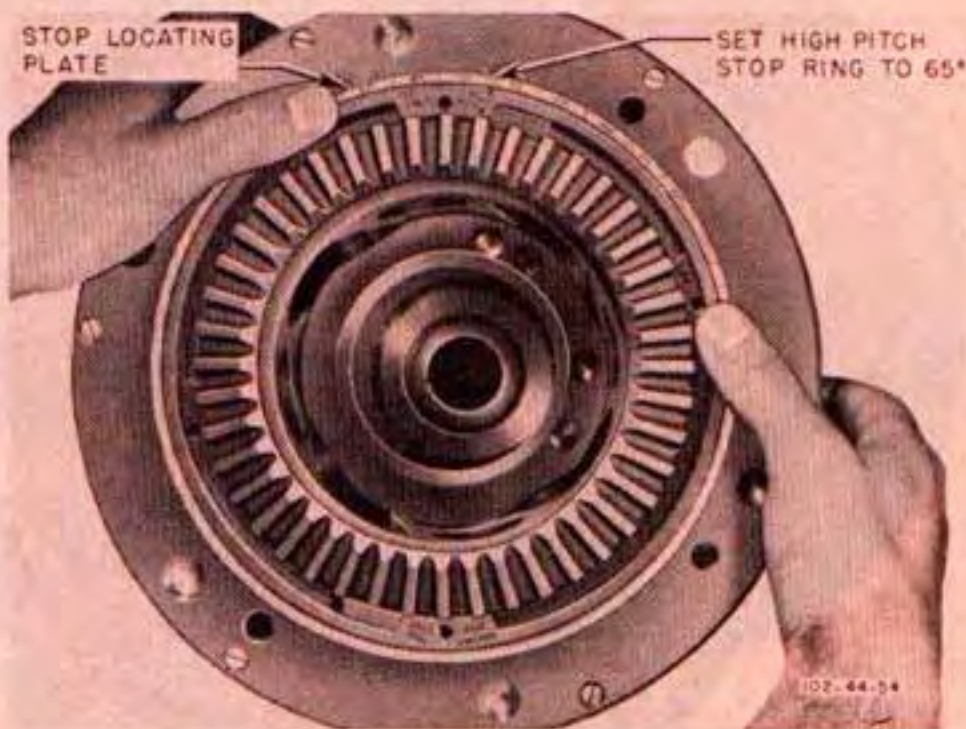

Figure 223—Installing High-pitch Stop Ring (Hamilton Standard)
3. Reinstall high-angle stop ring (aft ring when dome is installed) by inserting on top of low-angle stop ring so that the arrow on the ring coincides with the 65-degree mark on the stop locating plate. (See figure 223.) This is the high-angle stop ring and is marked "Set to High Pitch" on one lug and "Assemble This Stop Last" on the other lug.